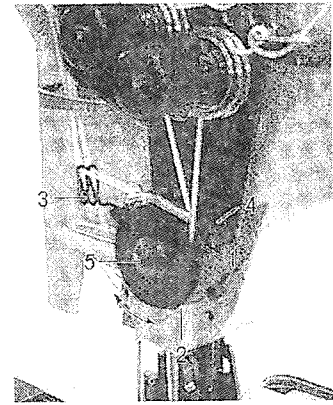

Fig.34
21. ADJUSTMENT OF THE THREAD CONTROLLER SPRING (Fig. 34)